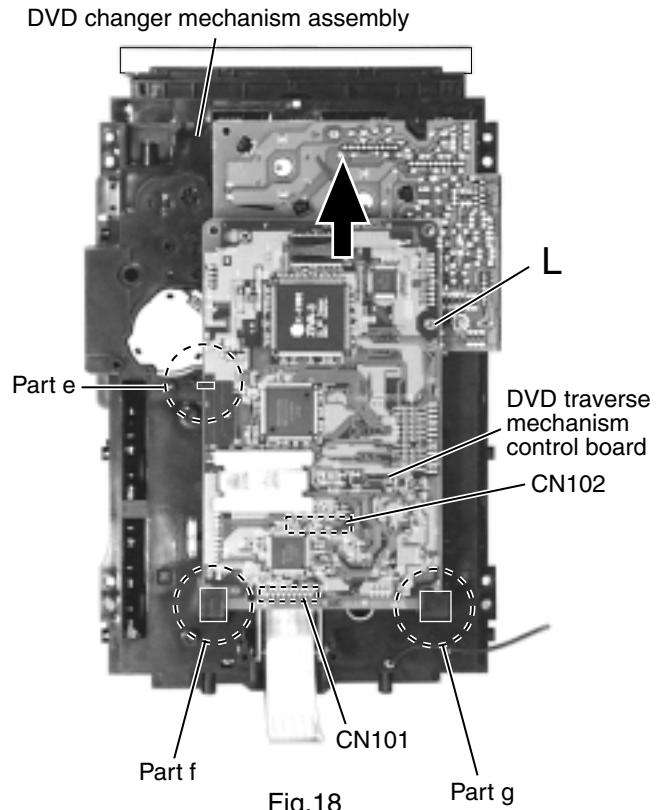

Fig.18
**■ Removing the traverse mechanism control board (See Fig.18)**